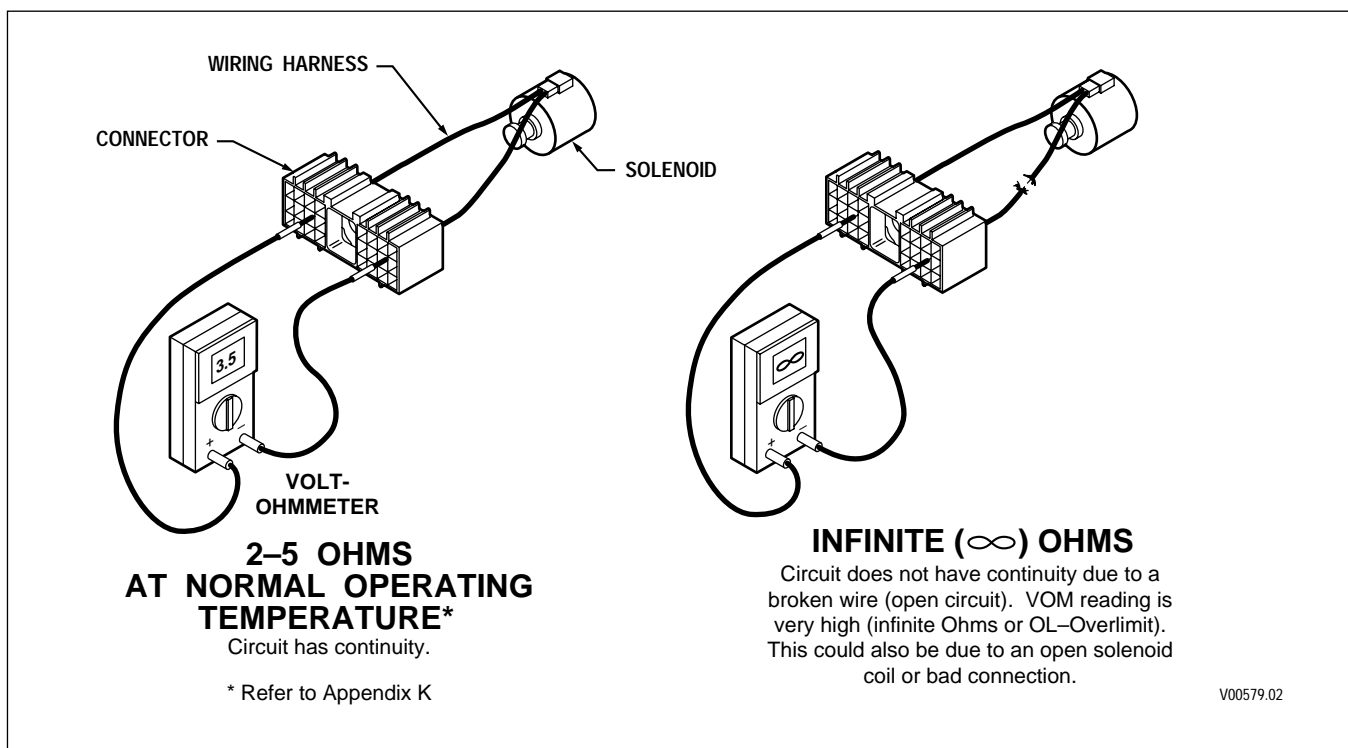

Figure 4-4. Checking Continuity
4. If the transmission being tested is an MD 3000, B 300, or B 400 after S/N 6510015259 or is an HD 4000 or B 500, and if the connectors are clean and connected correctly, determine which wires in the harness to test. Use the diagnostic code system schematic to locate the wire terminals. For this example, Code 41 12, indicates an open or short-to-ground in solenoid “A” circuit — wires 102 and 120 (refer to Figure 4-4).